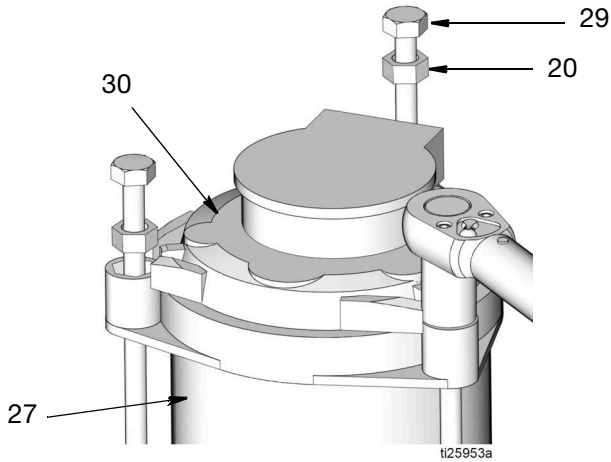

**FIG. 13**
7. Use a hex wrench to slowly loosen and remove drain plug (34) from the pump base and drain oil from the pump (FIG. 13).